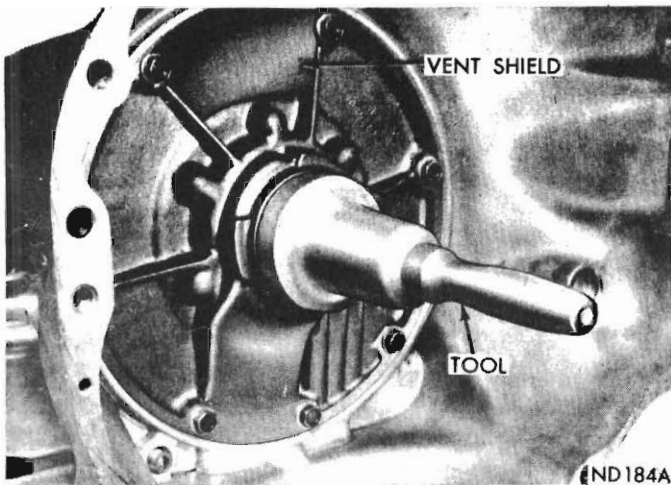

Fig. 47 - Installing pump oil seal
(2) *A-904*: To install a new seal, place seal in opening of the pump housing (lip side facing inward). Using Tool E21C35F, drive seal into housing until tool bottoms (Fig. 47).